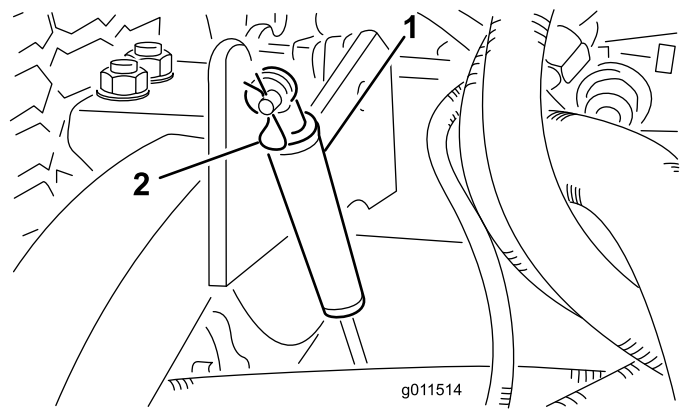

Figure 5
6. Remove the hair pin cotters securing the dampers to the cutting lift arms (Figure 5).